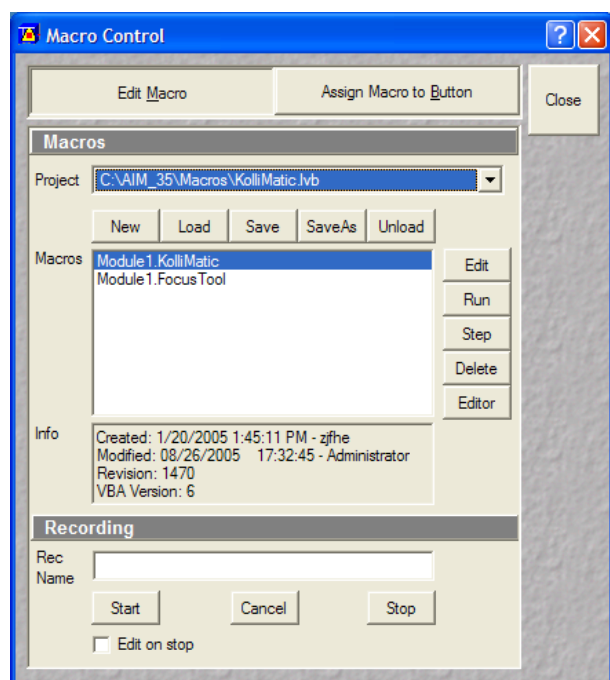

Fig. 9 Macro Control Window of the main LSM Software
- Use the **Macro** menu of the main LSM software to **Load** and **Run** the Macro **KolliMatic** (see Fig. 9)